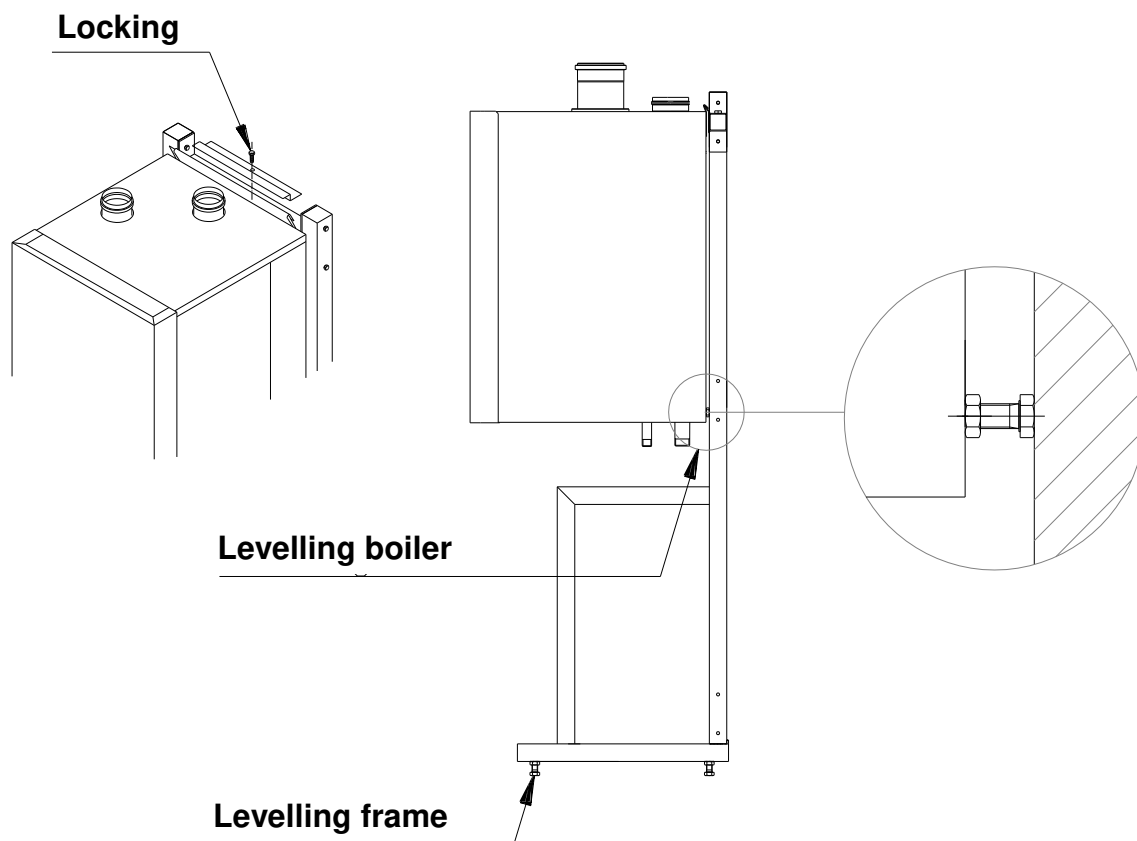

Figure 10.1 Mounting details
1. Before mounting the boiler on the frame, ensure that the frame is level both horizontally and vertically. If necessary, adjust with the adjusting bolts on the lower side of the frame (see Figure 10.1).
The boilers must hang backwards slightly ($1^\circ \pm 0.5^\circ$). If necessary, adjust with the adjusting bolts on the lower rear side of the back panel (see Figure 10.1). When the adjusting bolts are **not** sufficient, the space behind the bolts needs to be filled to achieve the correct position.